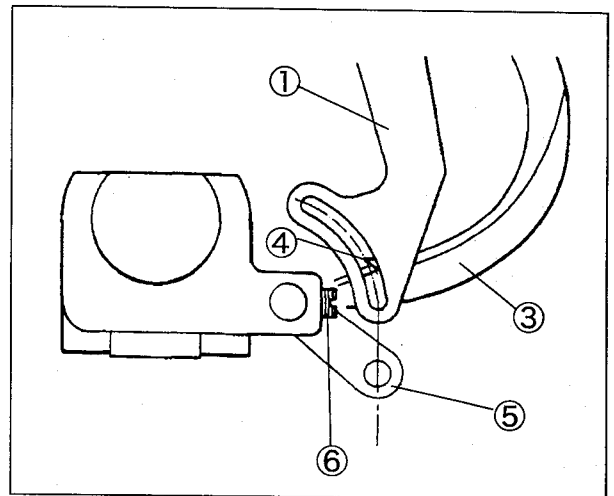

Fig. 51
- (1) Loosen the screw ⑥ of the top cover thread eyelet ⑤ . (Fig. 51)
- (3) Set the eye of the top cover thread eyelet ⑤ along the extending line from the slot of the top cover thread guide ① . (Fig. 51)
- (4) Tighten the screw ⑥ securely. (Fig. 51)